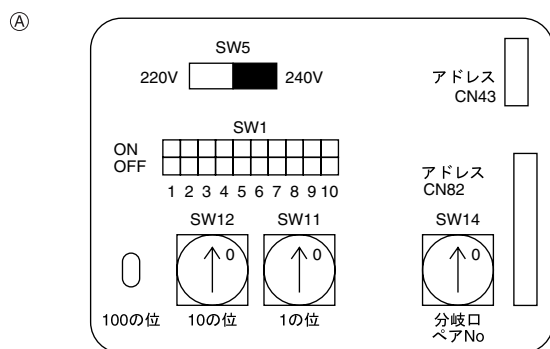

Fig. 5-5
5.3. Setting addresses (Fig. 5-5)